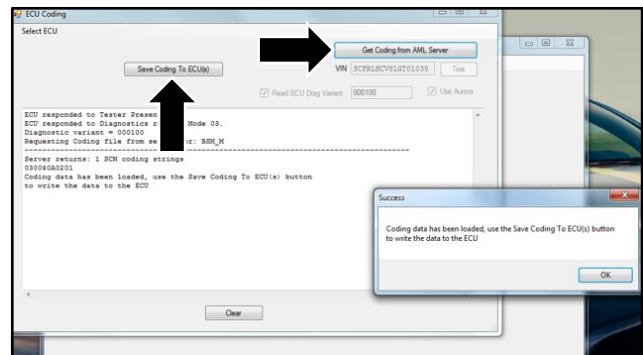

Figure 5
- If the software has been updated, the variant coding must be updated. Click the "Get Coding from AML Server" then click the "Save Coding to ECU(s)" button (refer to Figure 5).